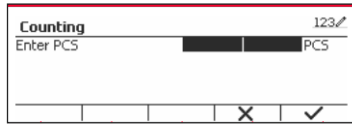

Figure 48
1. Press the softkey corresponding to the **PCS** icon to enter the submenu for setting the number of pieces. (See Figure 48)